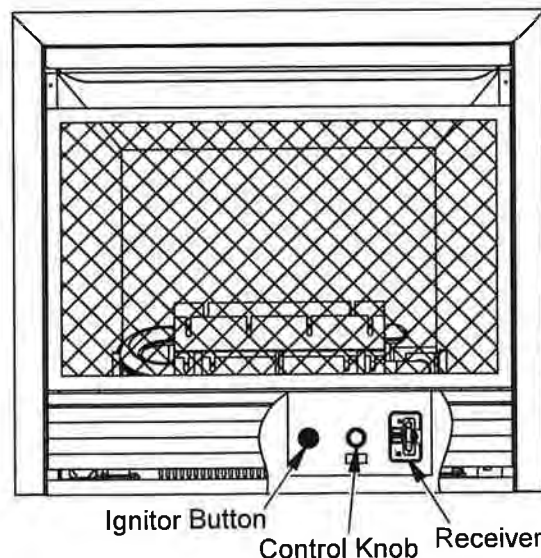

Figure 24 - Control Knob in the OFF Position
4. Wait five (5) minutes to clear out any gas. Then smell for gas around heater and near the floor. If you smell gas, STOP! Follow "B" in the safety information above. If you do not smell gas, go to the next step.
5. Push in the control knob slightly and turn counterclockwise  to the PILOT position. Press in control knob for five (5) seconds (see Figure 24).